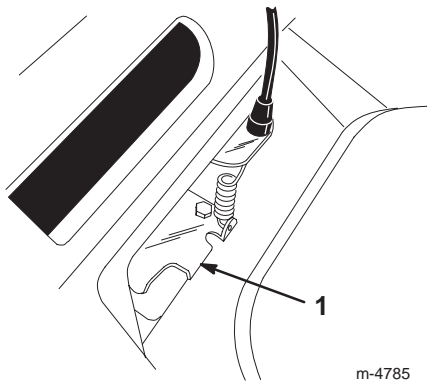

Figure 24
5. Push the belt guide tab down until it contacts the lawn mower, then hold it in place (Fig. 24).